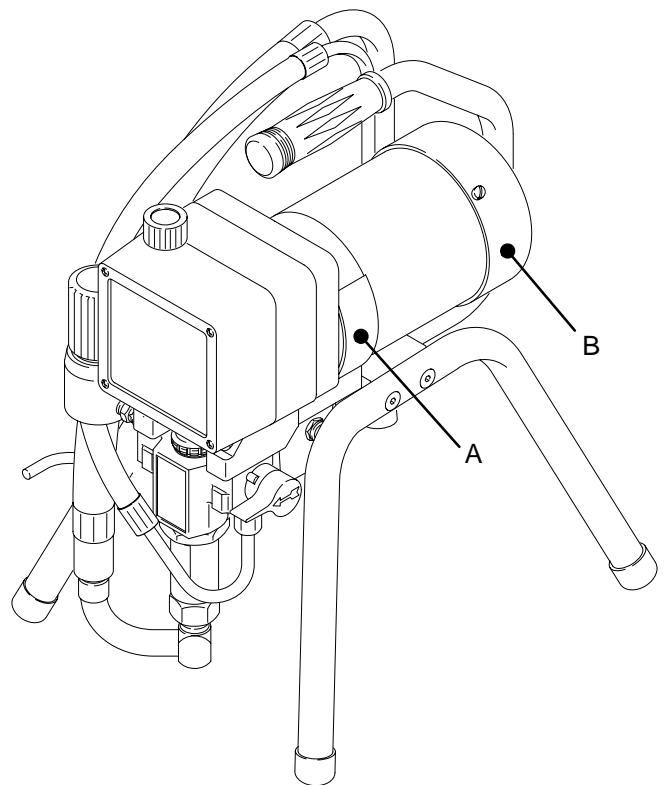

Fig. 11 **Model 231-208 Shown**
Remove the motor brush inspection covers (A). See Fig. 11.
Remove the fan cover (B). See Fig. 11.